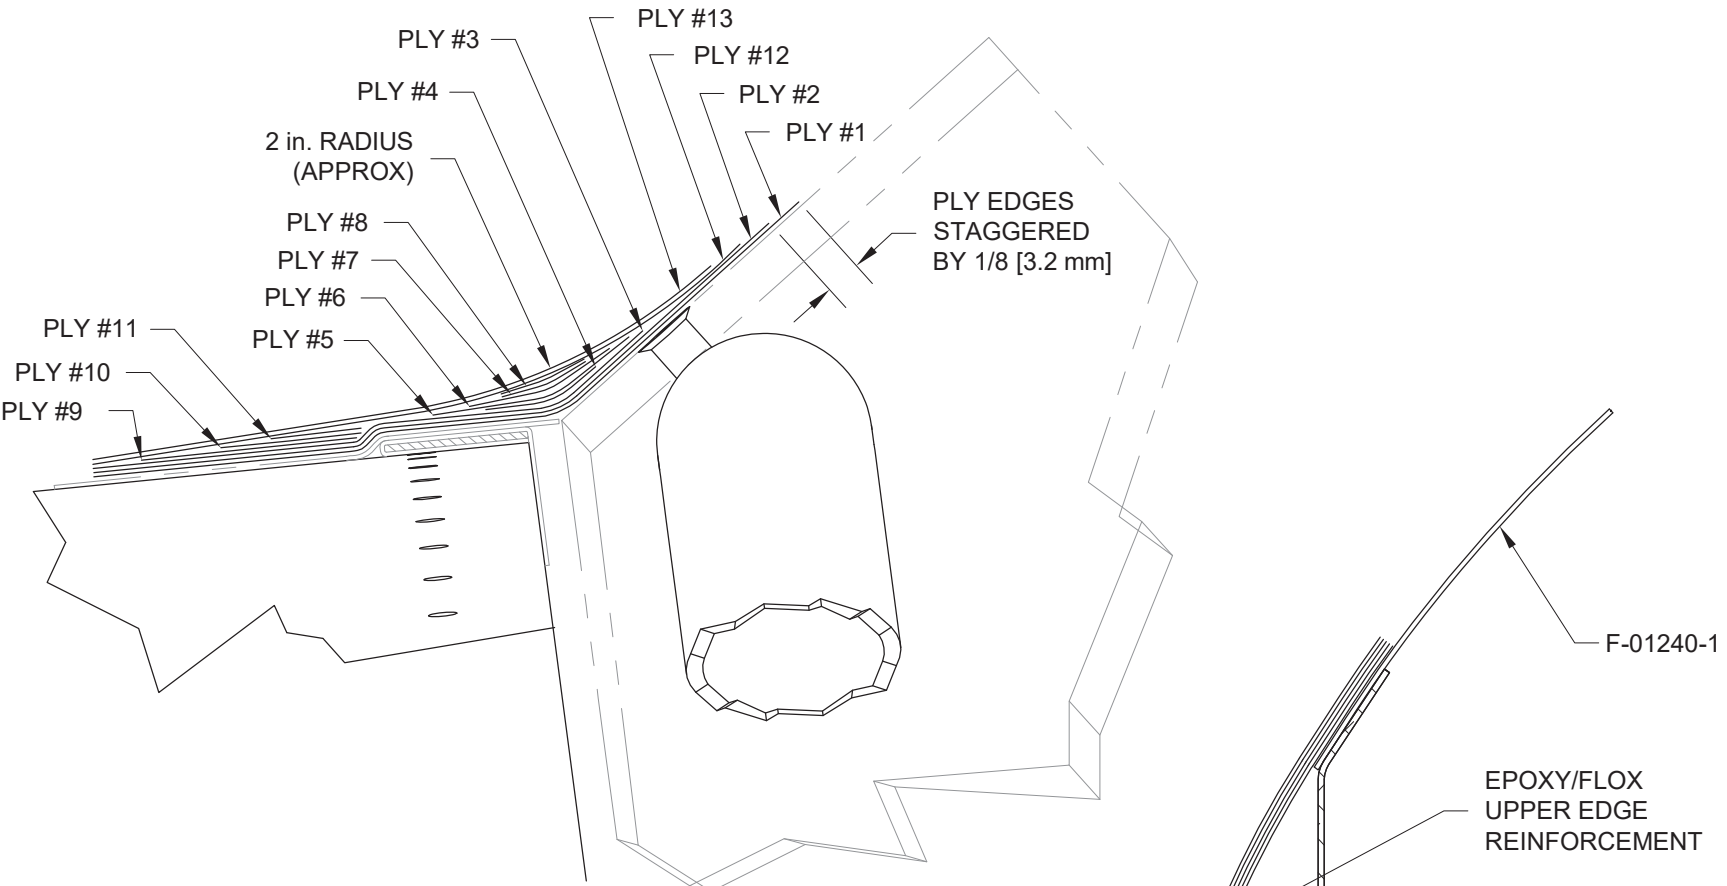

FIGURE 1:
Step 4: Allow resin to cure to the point that it is beginning to gel, but is still tacky. With the epoxy for ply #1 still uncured, place ply #2 (dry) in place on the canopy and wet it out with epoxy resin. Place the edge of ply #2 1/8 in. [3.2 mm] below the edge of ply #1 as shown in Figure 1. Place the end of ply #2 such that it overlaps the end of ply #1 by approximately 1/2 in. [12.7 mm]. Use care while wetting-out the ply #2 fabric so as not to disturb the placement of ply #1. Trim the other end to achieve 1/2 in. [12.7 mm] overlap.
Continue placing successive plies until ply #13 has been placed and wetted-out. Place the edges of the plies as shown in Figure 1. Stagger the ends of the various plies so that the thickness of the new lay-up transitions smoothly into the previous lay-ups thus preventing "lumps" that make final finishing more difficult.
(SEE PAGE 39iS/U-15, FIGURE 1 DETAIL)